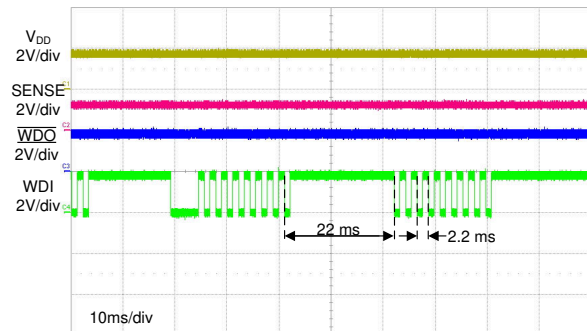

图 8-10. Window Watchdog Timing
In this application, the window watchdog timing options are based on the PWM signal that is provided to the TPS3850. A window watchdog setting must be chosen such that the falling edge of the PWM signal always falls within the window. A nominal window must be designed with $t_{WDL(max)}$ less than 5 ms and $t_{WDU(min)}$ greater than 5 ms. There are several options that satisfy this window option. An external capacitor can be placed on the CWD pin and calculated to have a sufficient window. Another option is to use one of the factory-programmed timing options. An additional advantage of choosing one of the factory-programmed options is the ability to reduce the number of components required, thus reducing overall BOM cost. Leaving the CWD pin unconnected (NC) with $SET0 = 0$ and $SET1 = 1$ produces a $t_{WDL(max)}$ of 2.22 ms and a $t_{WDU(min)}$ of 23.375 ms; see 图 8-10.